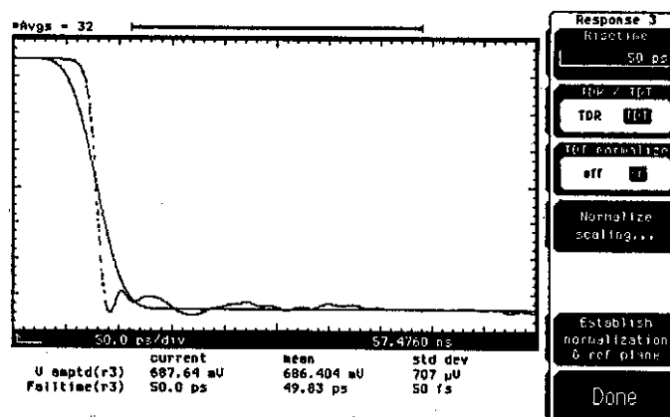

Figure 8: Channel 3, 4015 Pulse and Response 3, 50 ps Normalized Waveforms. 50 ps/div.
14. The scope will now take a few moments to signal average and measure the 4015 waveform on the screen. The measured, averaged waveform data will be stored in the scope's memory for later use in "normalizing" later measurements. After the scope has finished its measurement, it will then automatically start "normalizing" the waveform on the screen. The "normalized" waveform will then also be displayed on the screen as "response 3" (r3). See Figure 8.
15. Now measure the normalized, response 3 waveform pulse amplitude and falltime. Use the blue "measure" buttons "V amptd" and "Fall". Select "response 3" for each and push "enter". See Figure 8. Note that the measured falltime is very close to the selected 50 ps. Also note that the normalized